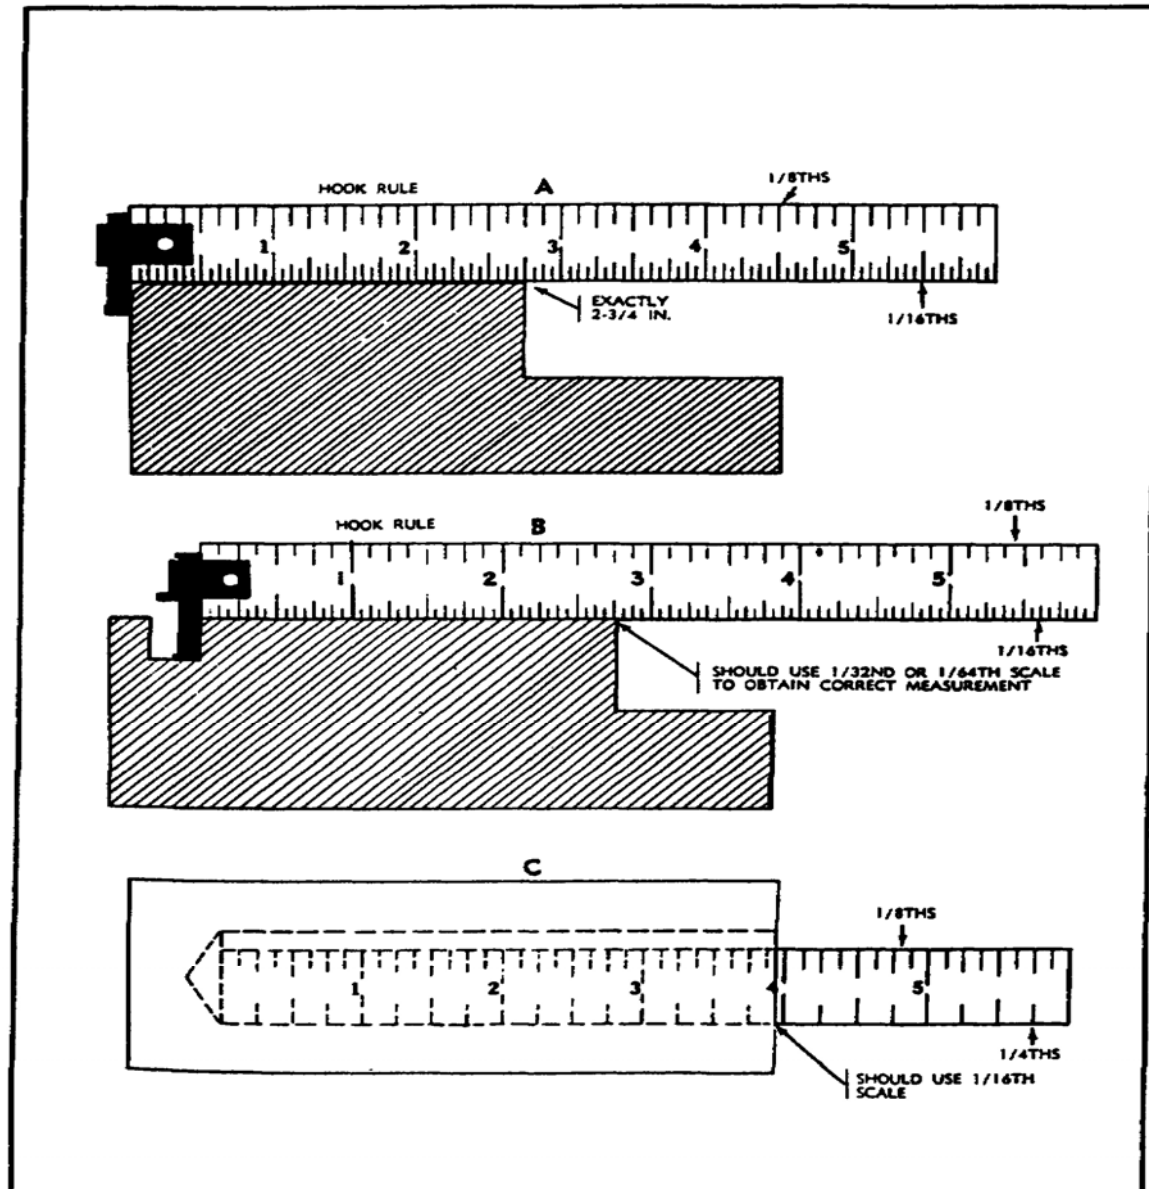

FIGURE 168. DETERMINING PROPER GRADUATED RULE.
(1) *Select Proper Scale*. When using a rule to check a dimension, the proper graduated scale should be used to control the reading of the dimension (figure 168, view A). If the work being measured lines up between two graduations on the scale, as shown in views B and C, in figure 168, and it is not possible to read this dimension to a 1/16 on a 1/16 inch scale, a 1/32 inch scale should be used. If it is still impossible to read a dimension to a 1/32, a 1/64 inch scale should be used.
(d) *Hook Rule.* Figure 168 shows applications of the hook rule. In one case, the hook serves to line up the end of the rule with the edge of the shoulder from which the measurement is taken; the other case shows the hook being used from the square edge of a part.